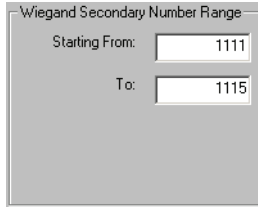

Figure 14-10: Enroll Cards - Wiegand Secondary Number Range
12. If the Secondary ID requires a facility code, click in the **Facility Code** field and enter the facility code for the Secondary IDs. The “Wiegand Secondary Number Range” field should appear similar to Figure 14-10 on page 9 of this section.